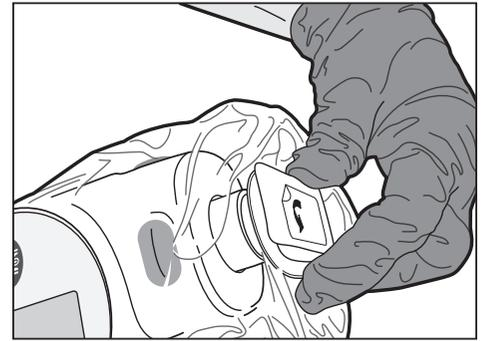
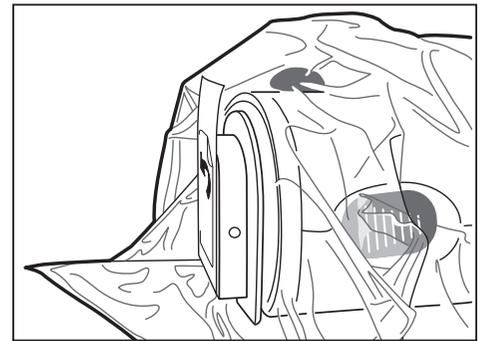

Figure 7. Attaching the Faceplate
Figure 8. Attached Faceplate
8. To attach the bag to the MDU5 PLUS, the sterile operator should align the bag's faceplate with the nose of the MDU5 PLUS (Figure 7), and gently push to secure the connection. Do not trap material between the faceplate and the nose. Extra bag material around and beyond the connection is normal (Figure 8).